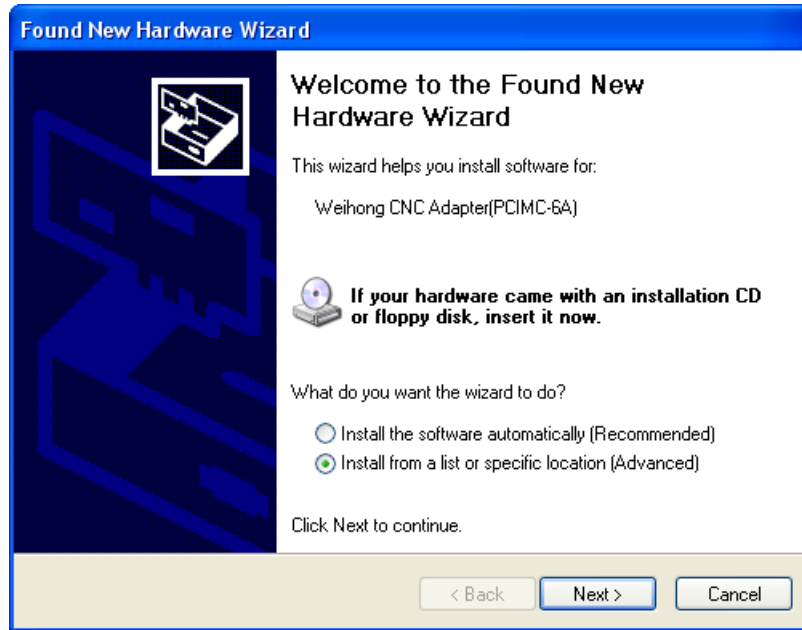

Fig. 1-8 Hardware update interface
- 2) A dialog box as Fig. 1-8 will pop up. Select “Install from a list of specific location (Advanced)”, and click [Next] to continue.